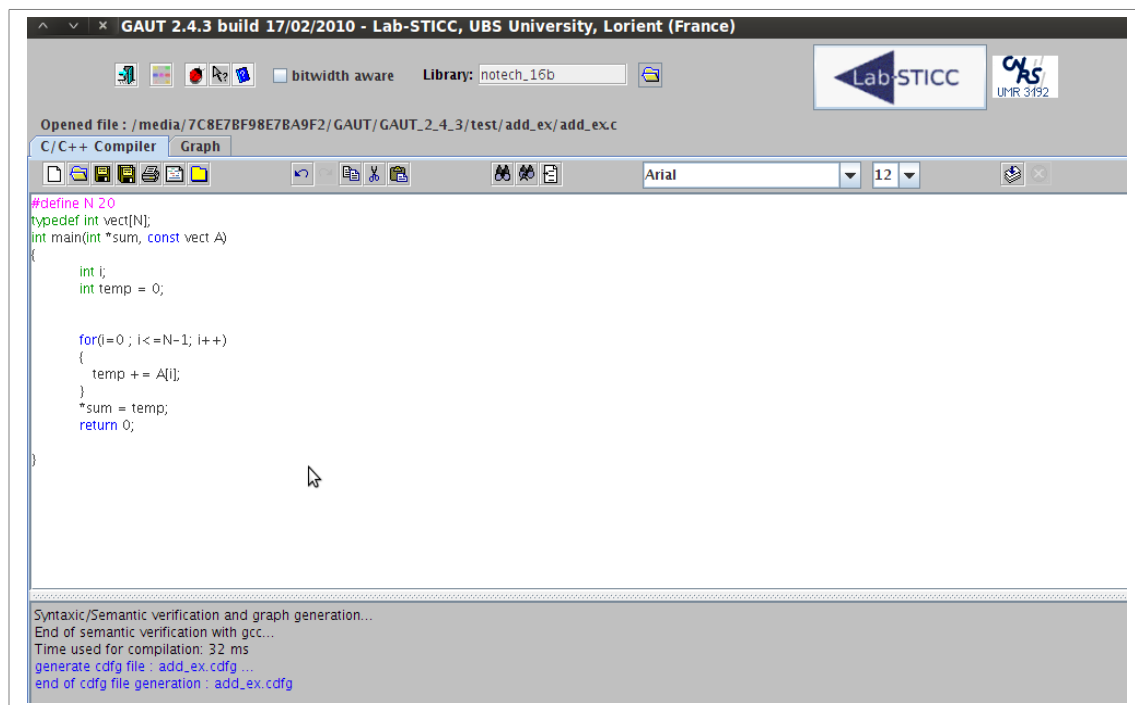

Figure 8 : C Editor/Compiler Window
- Click on the  button and you will come back to the main window as shown in the Figure 8.